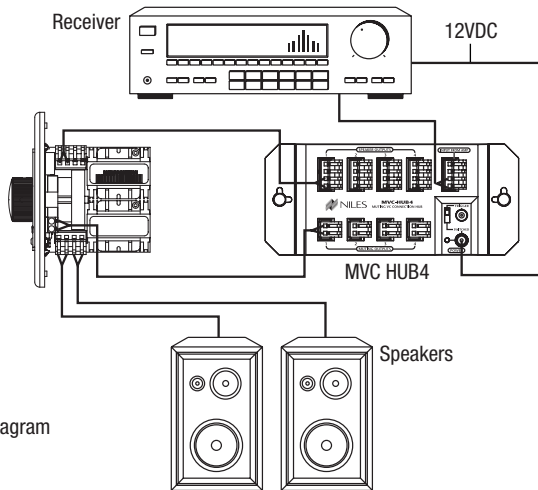
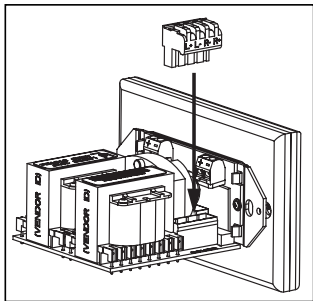
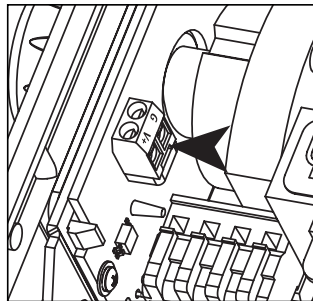

Figure 3. Wiring Diagram
Figure 6
Figure 8
NOTE: MAINTAIN PROPER PHASING. CONNECT THE POSITIVE TERMINALS ON THE VOLUME CONTROL TO THE POSITIVE TERMINALS ON THE AMPLIFIER AND SPEAKERS, AND CONNECT THE NEGATIVE TERMINALS ON THE VOLUME CONTROL TO THE NEGATIVE TERMINALS ON THE AMPLIFIER AND SPEAKERS. SEE **FIGURE 3**. TO HELP YOU AVOID IMPROPER PHASING, THE CONNECTOR PLUG IS KEYED. INSERT THE SMOOTH SIDE OF THE CONNECTOR PLUG INTO THE SMOOTH SIDE OF THE SOCKET. DON'T FORCE THE SCALLOPED SIDE OF THE CONNECTOR PLUG INTO THE SMOOTH SIDE OF THE SOCKET. SEE **FIGURE 6**.
5. Locate the 2 pin voltage connector (see **Figure 8**). Strip 1/4" of insulation from the end of each wire. Tightly twist the end of each wire until no frayed ends remain and insert each wire into the appropriate hole on the connector. Use a small flathead screwdriver to tighten the screws in place. Maintain correct polarity when making connections.
7. Plug the connectors into the volume control as shown in **Figure 6**. The inputs of the IM volume control are the connector pins labeled **AMPLIFIER**. The outputs are the connector pins labeled **SPEAKERS**.
8. Connect the 2 conductor power-supply wiring between the volume control (See **Figure 8**) and the receiver's switched outlet or a Niles MVC HUB4 speaker/ power hub (See **Figure 3**).